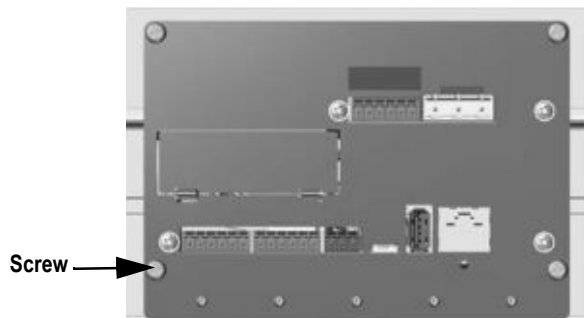

Figure 2-23. Bottom Plate Screw
1. Remove the screw highlighted in Figure 2-23.